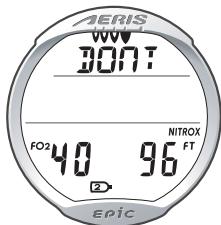

Fig. 106 - DON'T SWITCH
**△ NOTE: If a Switch to a new Gas Mix would expose the diver to a prohibitive PO2 level of 1.60 ATA or greater, the Audible Alarm will sound, the red LED will flash, and the message DONT > SWCH will scroll at the top of the display (Fig. 106) until acknowledged by pressing/ releasing the S button momentarily.**